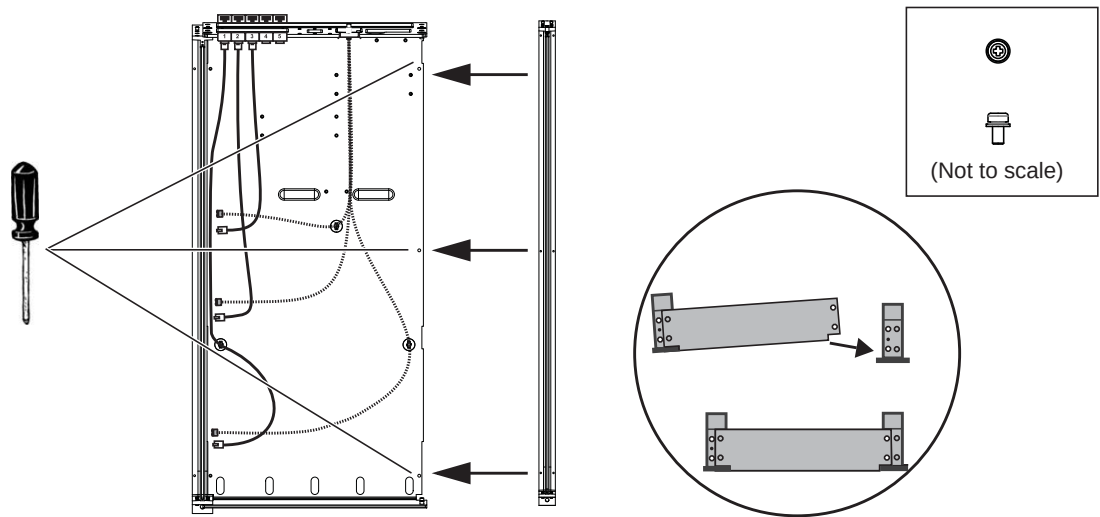

Figure 14. Securing the end Side Wall to the Chassis Bottom Plate, top view (at left) and front view (lower right)
- 2 Attach the Side Wall to the Chassis Bottom Plate of the right-most chassis using three #1 Phillips screws. The right edge of the Chassis Bottom Plate sits on top of the left edge of the Side Wall as shown in Figure 14.